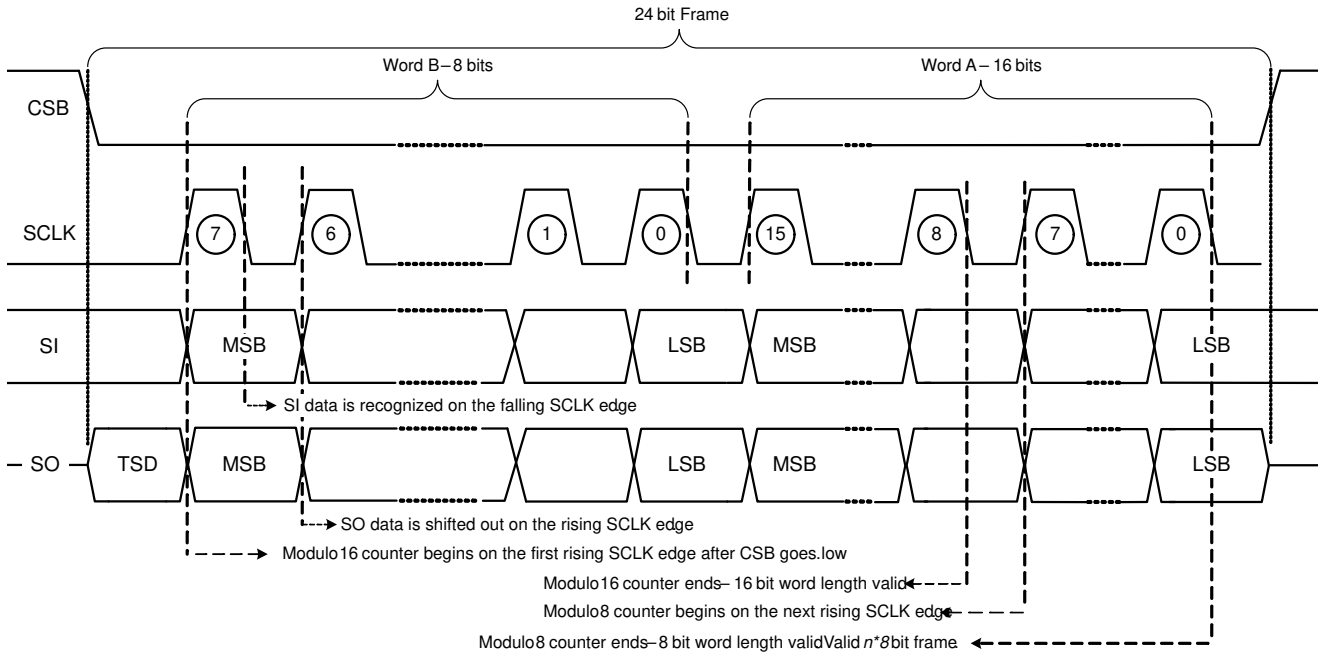

Figure 17. SPI Data Recognition and Frame Detection
Daisy chain communications between multiple of 8-bit SPI compatible IC's is possible by connection of the serial output pin (SO) to the input of the sequential IC (SI). The clock phase and clock polarity respect to the data must be the same for all the devices on the chain. Figure 16 illustrates the hardware configuration of NCV7728 daisy chained with a *n*\*8 bit (ie *n* = 2; 16 bit) SPI device. The progression of data from the MCU through the sequential devices is also shown. Strict adherence to the frame format illustrated in Figure 17 is required for the proper serial daisy chain operations.